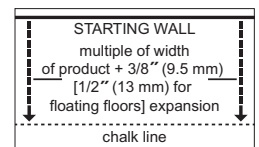

Figure 6
- In at least two places at least 18" (46 cm) from the corner, measure out equal distance from the starting wall (Figure 6) and snap a chalk line. The measurement must be the sum of the width of the flooring plus an additional 3/8" (9.5 mm) to allow for 1/4" (6 mm) expansion space and the width of the tongue. Allow 1/2" (13 mm) expansion when installing floating floors. Continue to Step 3: Glue or Floating